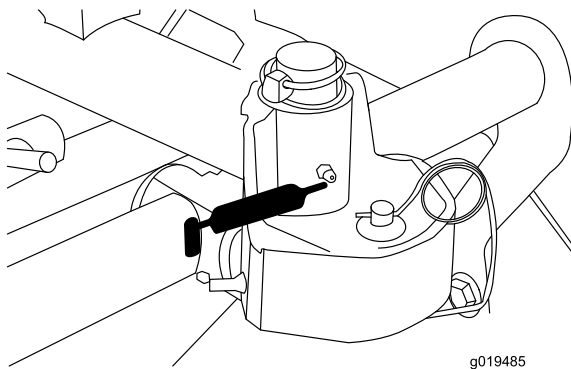

Figure 41
- Cutting unit carrier frame and pivot (2 ea.) (Figure 41).